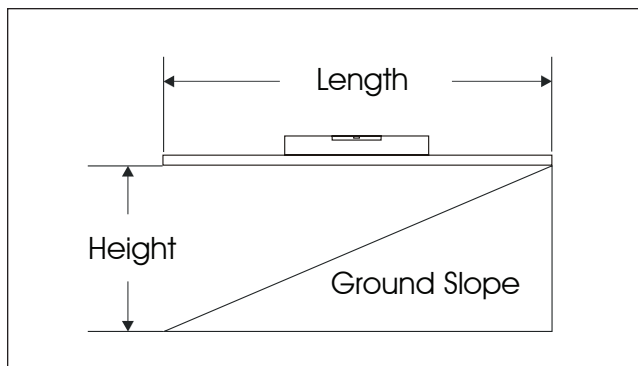

Figure 8.8 – Percent Grade Calculation
2. Holding the downhill end, raise the 2x4 until the level indicates the board is level (refer to Figure 8.8).